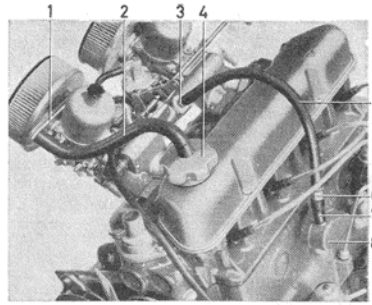

Fig. 13. Positive crankcase ventilation
(concerning number references, see Fig. 13)
On engines with positive crankcase ventilation (Fig. 13), the valve (6) should be replaced every 40 000 km (25 000 miles). At the same time, the oil trap (8), hoses, nipple (3) and intermediate part (1) should be removed and thoroughly cleaned. If the hoses are damaged, they must be replaced. The oil filling cap filter should also be cleaned as described above.